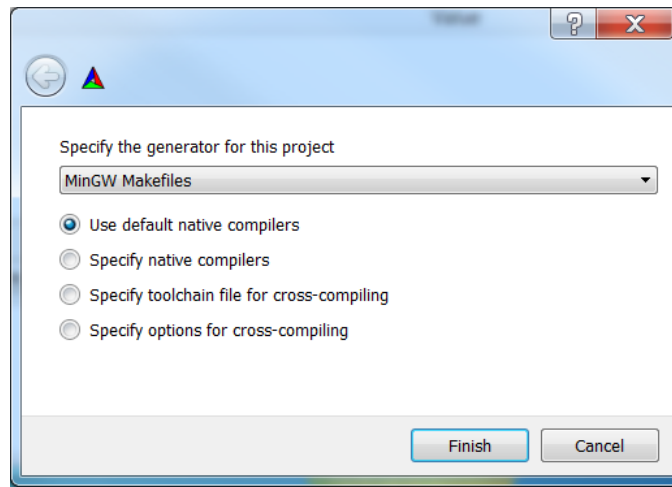

Figure 57. CMake Configuration Options
- Next, click the "Configure" button and make sure that "MinGW Makefiles" is specified as the generator and that the "Use default native compilers" radio button is selected as shown in Figure 57. Click "Finish" to initiate the configuration process.